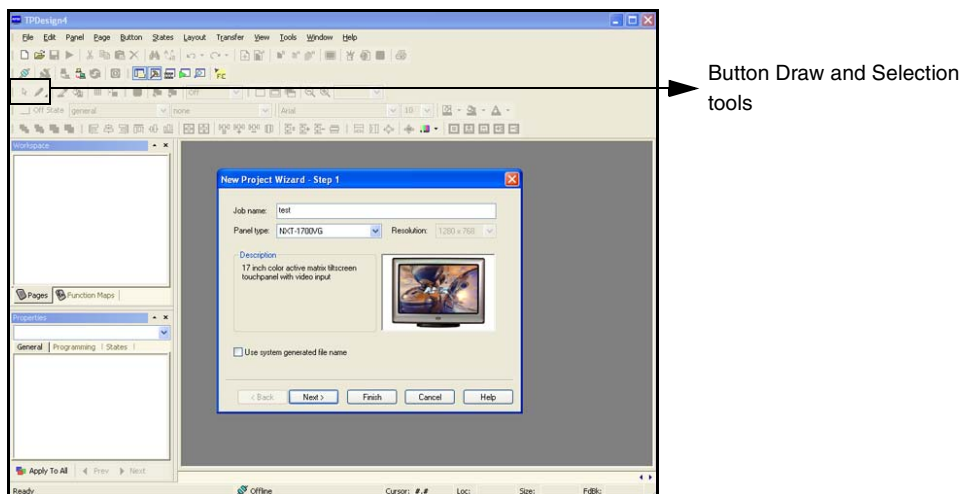

FIG. 132 Sample VG-Series TPD4 panel project
- For the purpose of these procedures, we've chosen to use a Job Name of **Test** and have selected an **NXD-1700VG** touch panel (FIG. 132).
7. Press the **Button Draw Tool** (CTRL+U) to begin drawing a square button onto the blank page (FIG. 132).